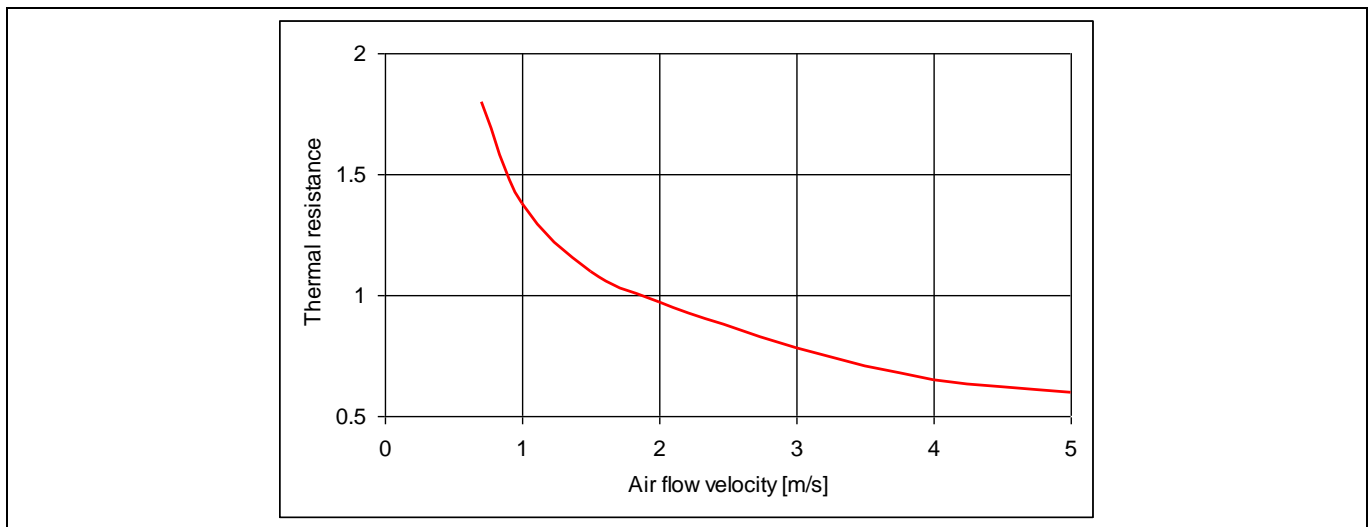

Figure 46 Thermal resistance as a function of the air flow velocity
- **Heat transfer coefficient (aerodynamics):** This coefficient strongly depends on the air flow velocity as shown in Figure 46. If there is no externally induced flow, one speaks of natural convection. Otherwise it is forced convection. Heat sinks with very small fin spacing do not allow a good air flow. If a fan is used, the fin gap may be lower than for natural convection, as the fan forces the air through the space between the fins.